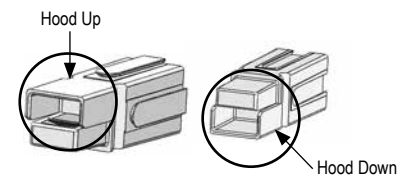

Figure 2
- Orient Powerpole® housings with hoods up (See Figure 2)